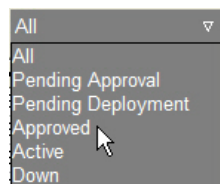

Figure 4-41: Selecting a Sensor status option
- 2) Click the Sensor Status down arrow and select a status option from the drop-down list. See Figure 4-41